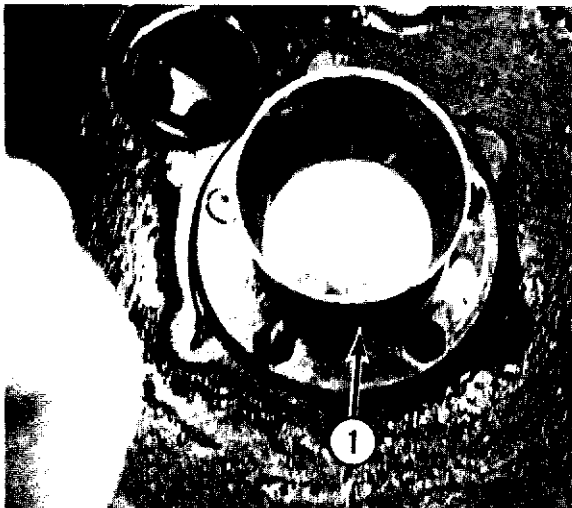

Fig. 11-21
- C. Coat the chimney gasket with Permatex (both sides) and place it on the transmission housing. Install the chimney (1, Fig. 11-21) (5 screws).